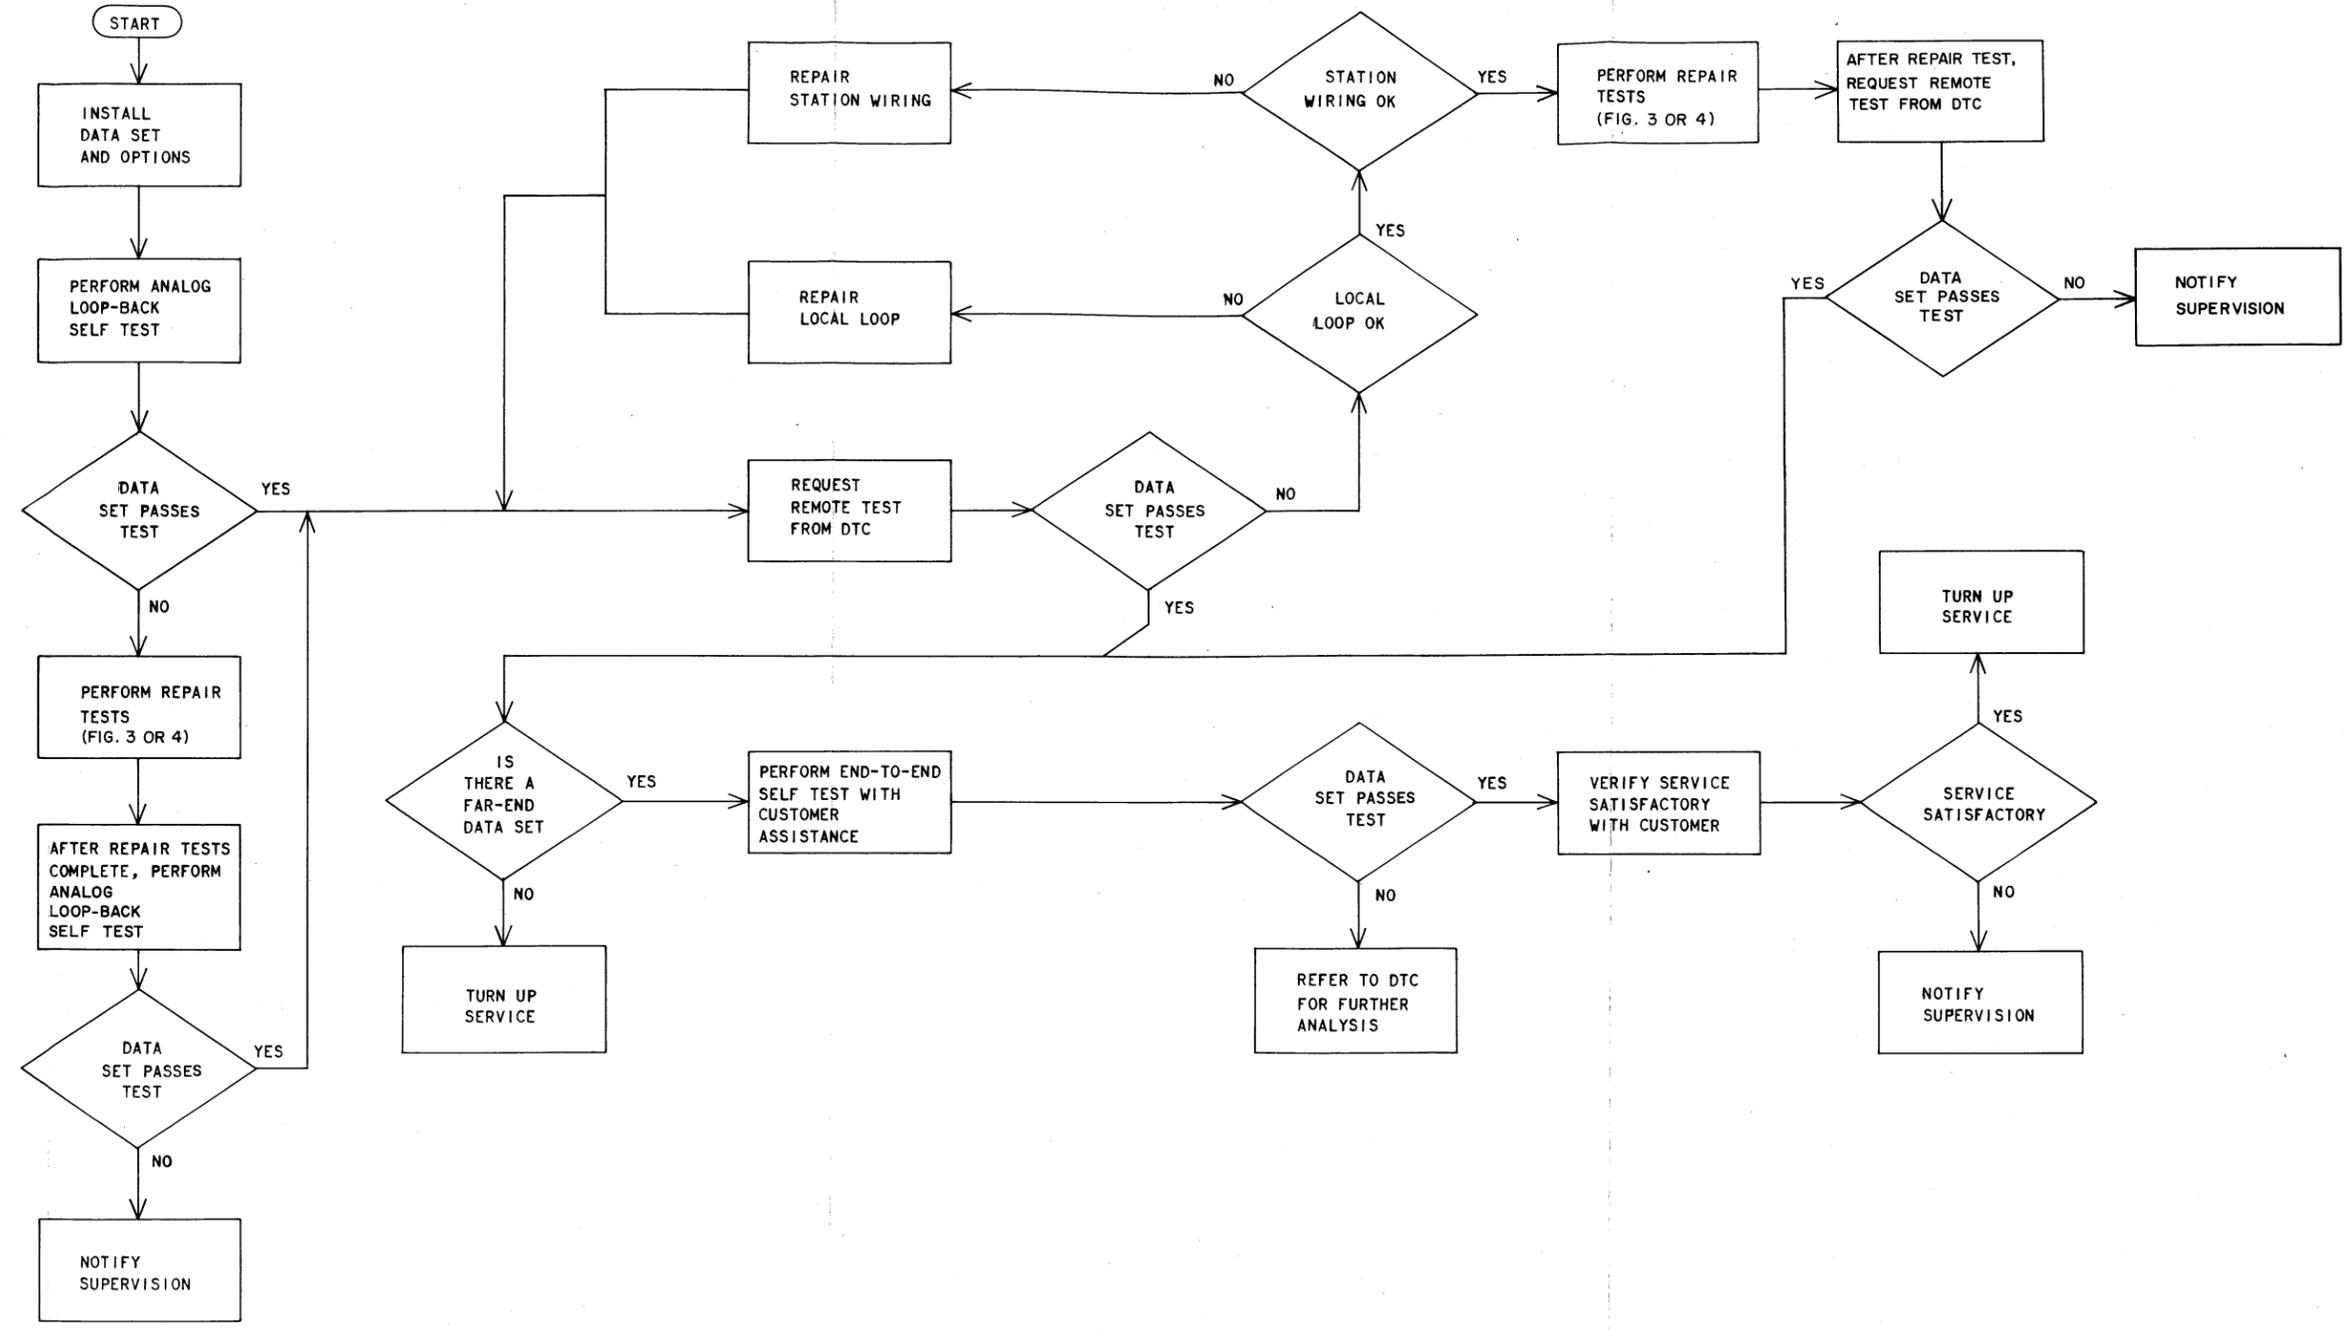

Fig. 1—Installation Test Procedures
**3.02** Refer to Fig. 1 for the sequence of tests to be performed.